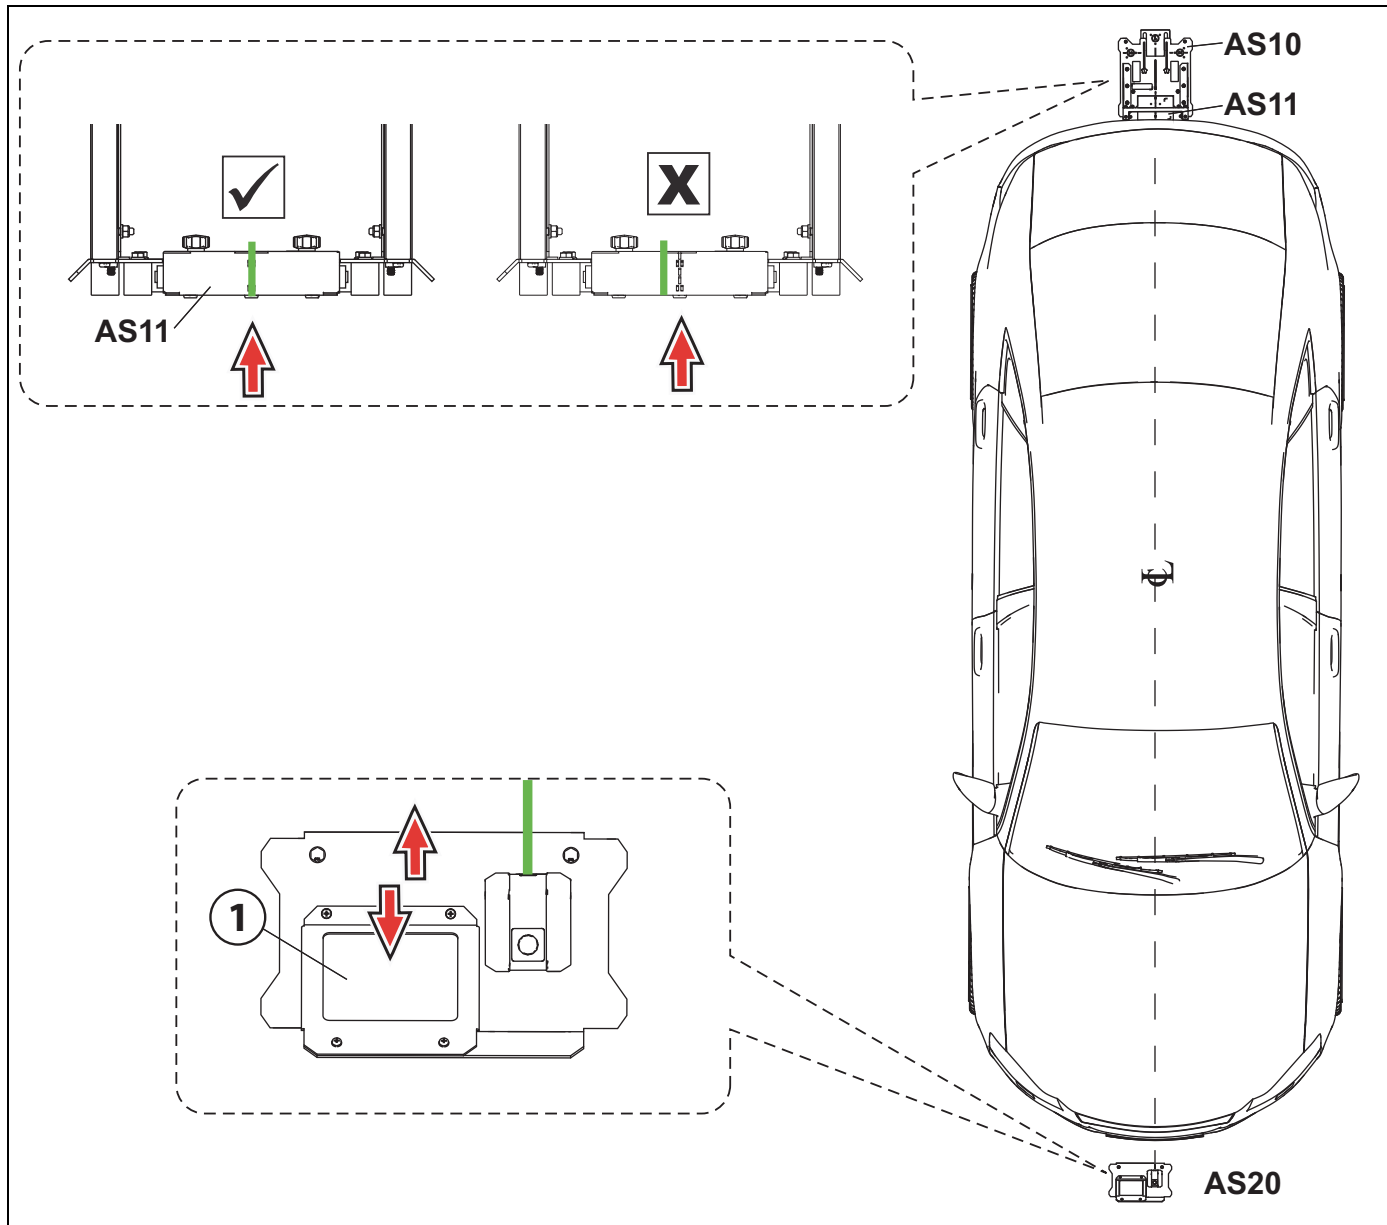

Figure 5-3
7. Move the AS20 fixture to simultaneously align its laser with the center of the vehicle emblem (or other vehicle center feature) and the center slot in the AS11 alignment plate (Figure 5-3).
Use the mirror on the AS20 fixture to aid in aligning the laser under the vehicle, see item 1 in Figure 5-3.